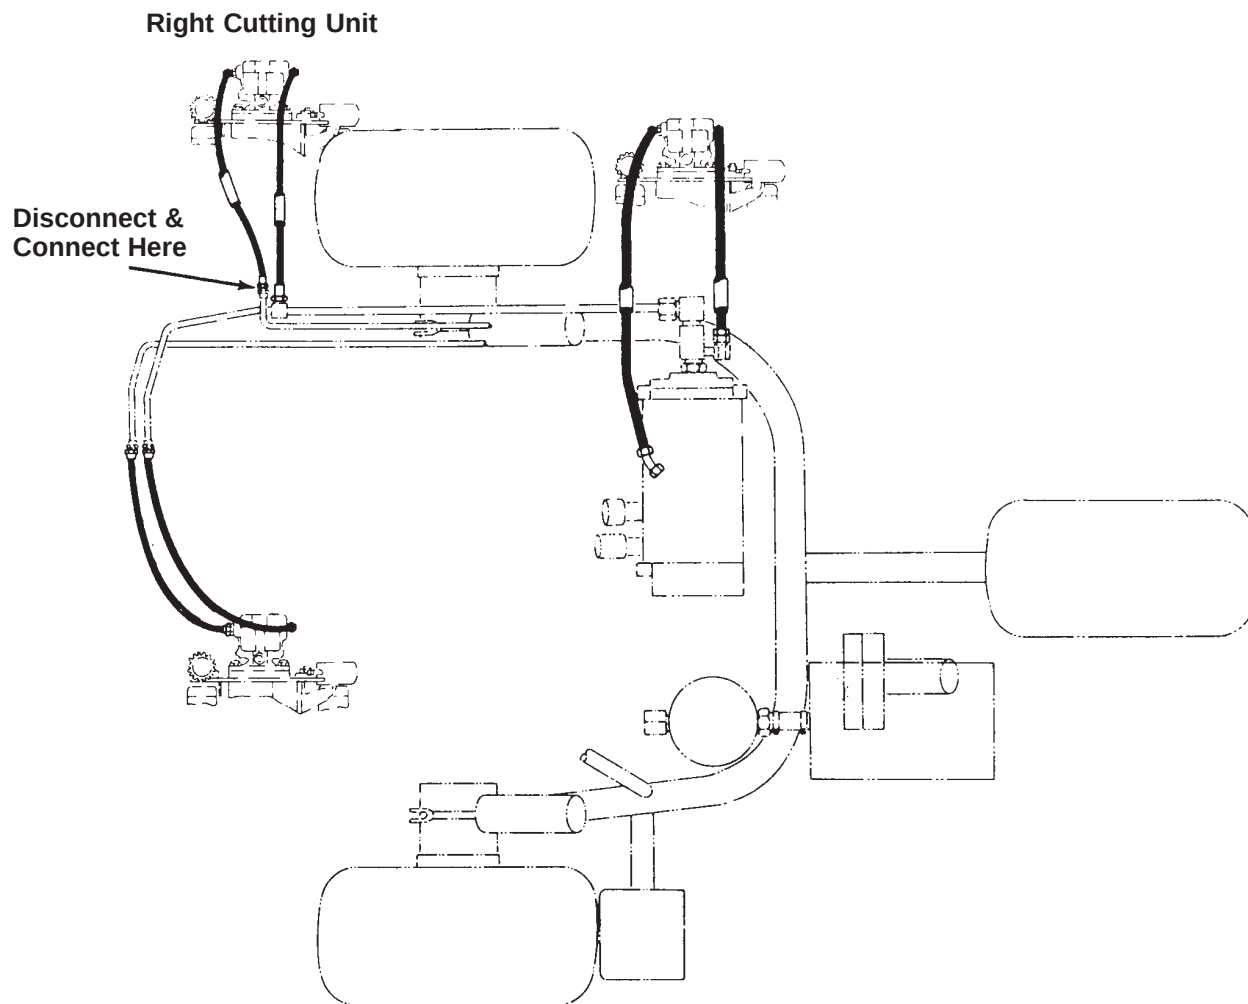

Figure 3
5. Disconnect the pressure and return hoses from the machine at the locations shown in figure 3.